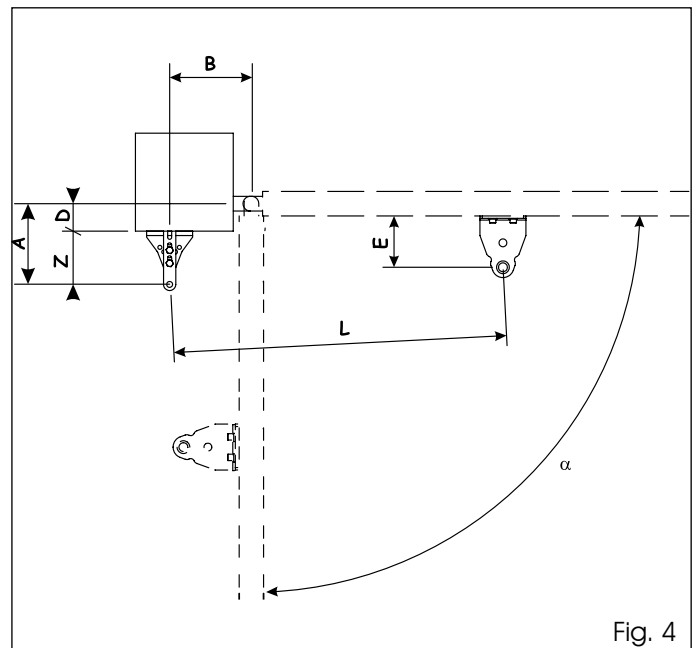

Fig. 4
Select the assembly position of the operator on the gate, referring to Figure 4 and the relative table. Choose whether or not to use the built in mechanical positive stops; eliminating the mechanical stops increases the working stroke of the operator and values **A** and **B** must be changed.
*If during this test the operator hits the leaf of the gate, the value **E** may be increased, (see Fig. 4), up to a maximum of 4½ inches, using appropriate spacers placed between the front bracket and the gate's leaf.*